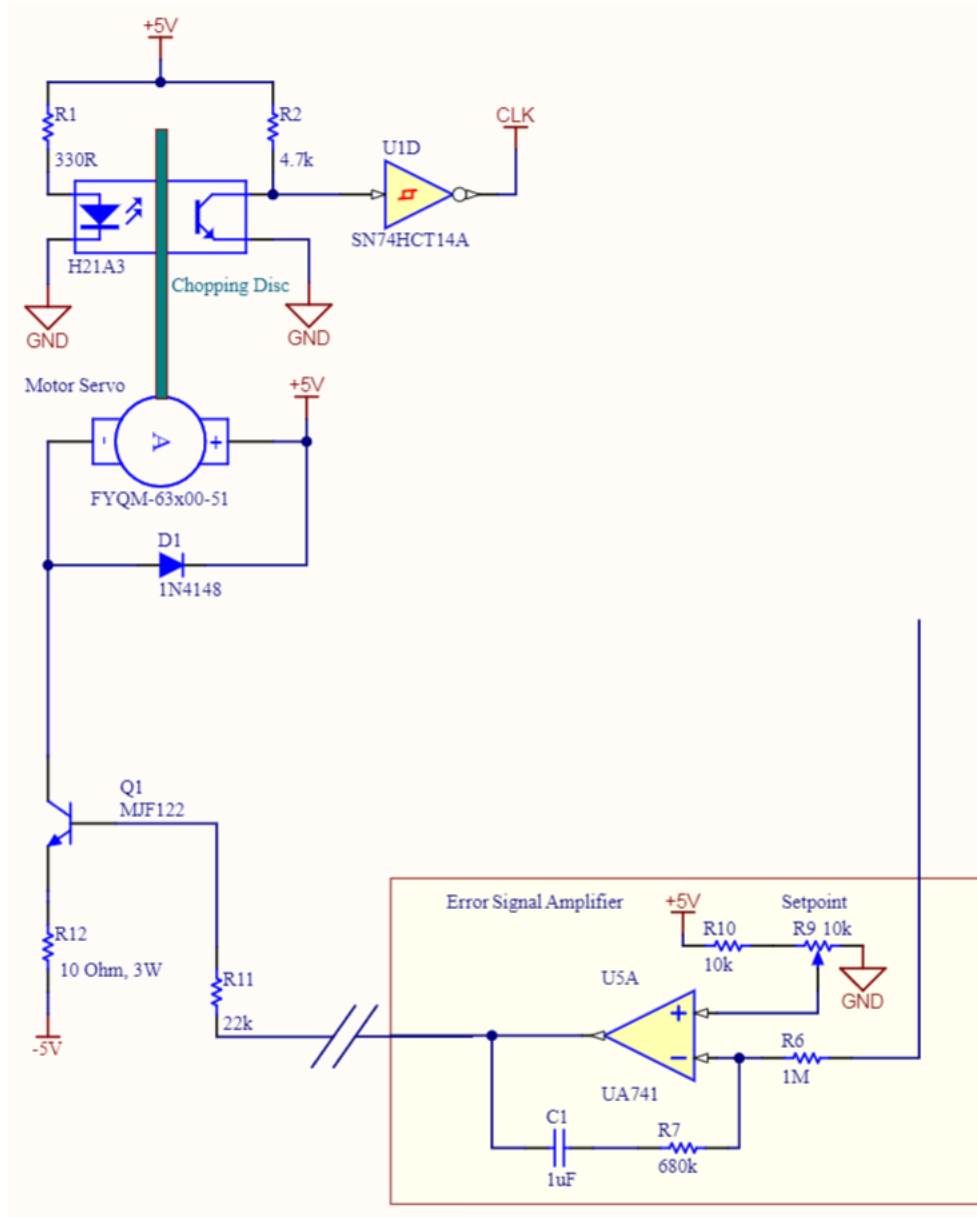
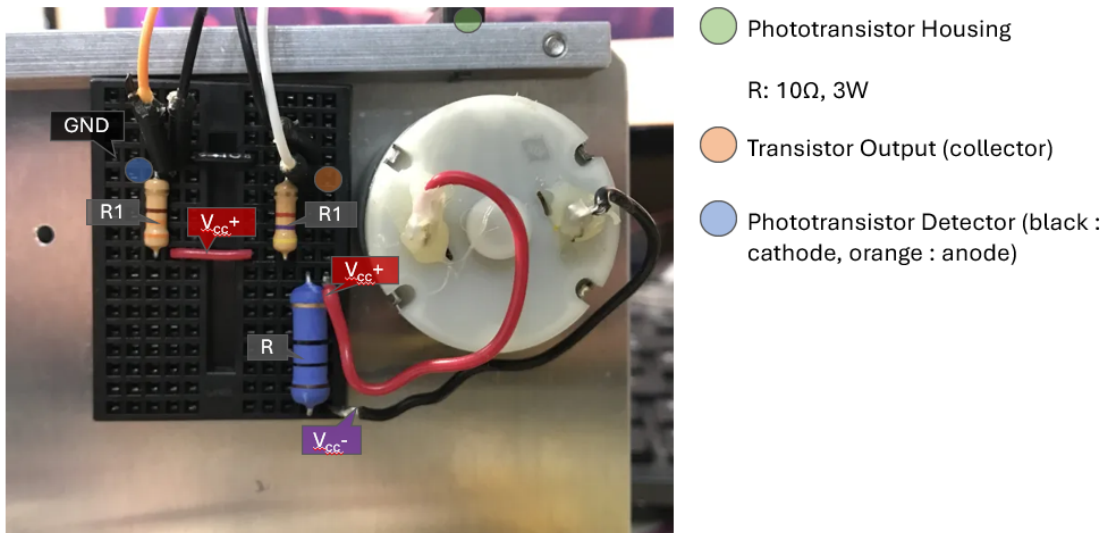

Figure 25: Functional circuit schematic of motor sensor and driver (error signal amplifier and motor itself)
Figure 30: Motor sensor setup - note resistor on right is labeled wrong, and should be R2 instead of R1
If we have V_{in} as the signal the DAC outputs, from Figure 25, we decide that the current flows from V_{in} to V_{out} , so we have current
- I set up the motor sensor circuit on the breadboard next to the motor as seen in Figure 30, following the schematic in Figure 25.
- I connected 5 V and -5 V wires from the AD2 power supplies to the same columns the red and black wires of the motor were plugged into, and a 10 Ω 3 W resistor in series between the two (seen in Figure 30)